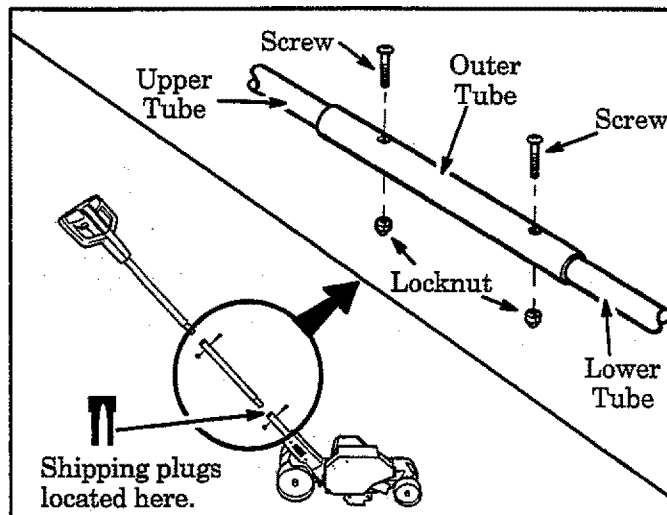

Figure 1
2. Slide the outer tube down the upper tube and over the end of the lower tube. Figure 1. Align the screw hole in the outer tube with the screw hole in the lower tube. Figure 1.
3. Insert screw through the aligned holes. Figure 1.
4. Align the screw hole in the outer tube with the screw hole in the upper tube. Figure 1.
5. Insert screw through the aligned holes. Figure 1.